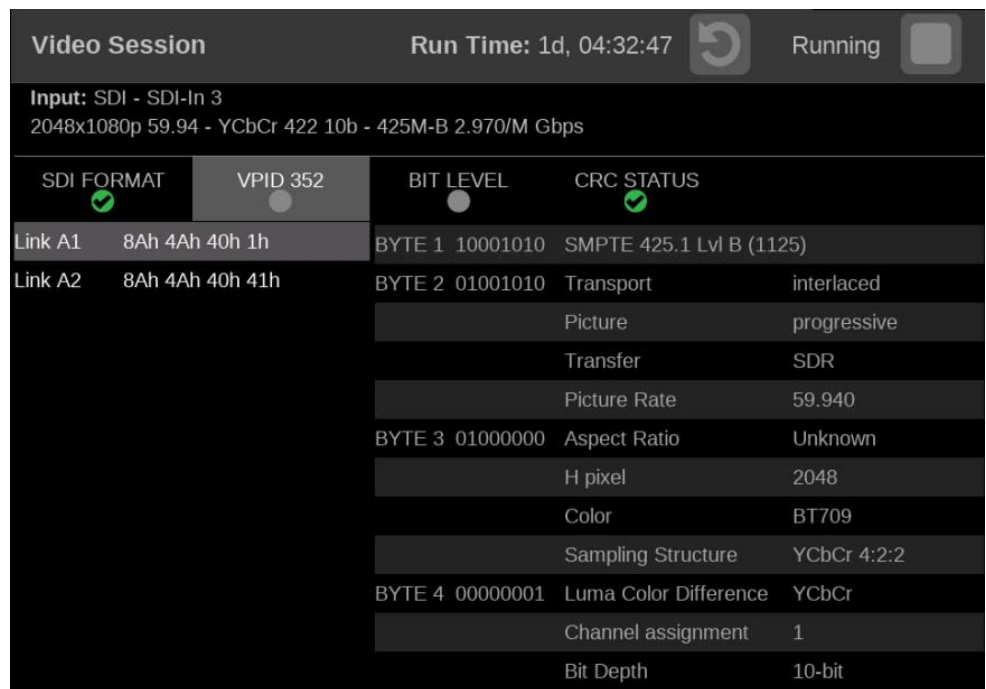

Figure 122: Video Session application — VPID 352 tab display for 3G-SDI Level B signal
**VPID 352 tab display** Use the VPID 352 tab display to view the VPID values of the SMPTE352M payload. For 3G-SDI signals, VPID is required on the primary link (Link A). (See Figure 122.)